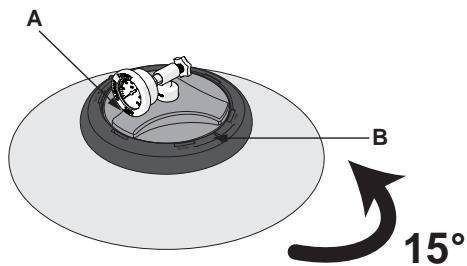

Figure 7. Loosen Hand Wheel
- Take care not to dislodge the vent tubing and vent screen. See **Figure 7**.
12. Make sure that the automatic vent tubing is in place (threaded through the diffuser) and the vent screen is installed at the top of the vent tubing. See **Figure 7**.
1. Turn the hand wheel (A) in an anti-clockwise direction until it becomes loose. Fig. 7
3. Before removing the lid, turn it 15° in an anti-clockwise direction (B) Fig. 7. Lift the whole lid by the hand wheel.